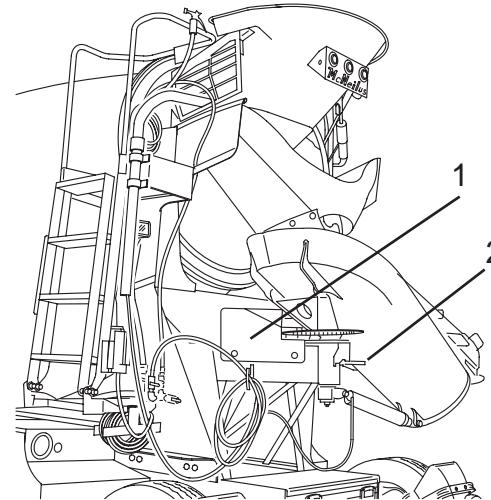

Figure 36
The hydraulic chute swing option (Figure 36, Item 1) allows the operator to move the discharge chute from the rear pendant.
1. Release the manual chute lock (Figure 36, Item 2).